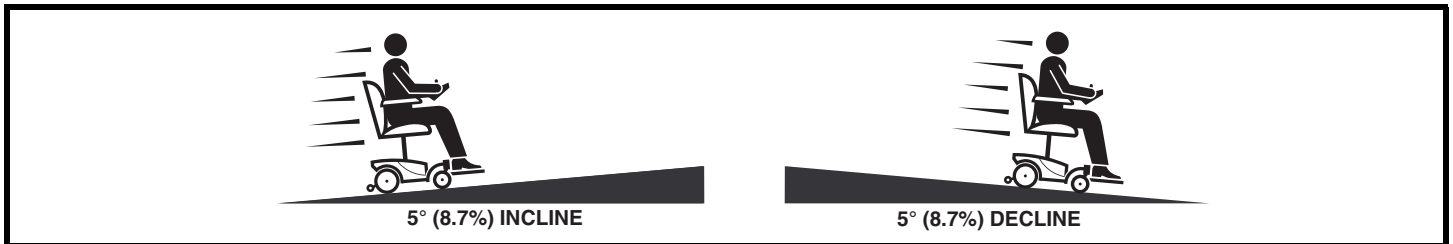

Figure 1. Maximum Safe Angle (Ascending and Descending)
**WARNING!** Even though your Go-Chair is capable of climbing slopes greater than those illustrated in figure 1, do not, under any circumstances, exceed the incline guidelines or any other specifications presented in this manual. Doing so could cause instability in your Go-Chair.
Pride recommends that the maximum slope of an incline you attempt to safely ascend or descend on your Go-Chair does not exceed 5° (8.7%). See figure 1.